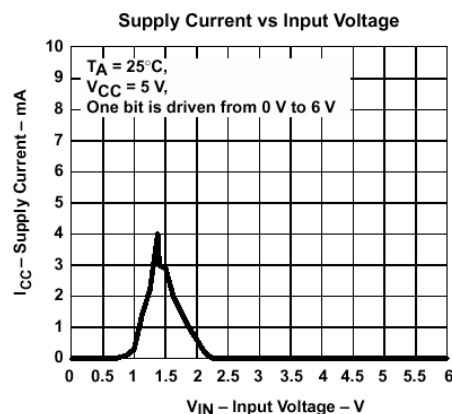

Figure 7.3 Typical transient supply current
- This current surge can be damaging, depending on the length of time that the input is in the threshold region (0.8 V to 2 V). The supply current ( $I_{CC}$ ) can rise up to several milliamperes (mA) per input, peaking at approximately 1.5-V. (see Figure 7.3).